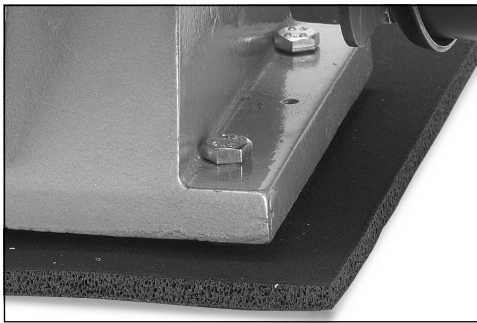

Fig. 1
6.2 Bench Mounting the Grinder (Fig.1)